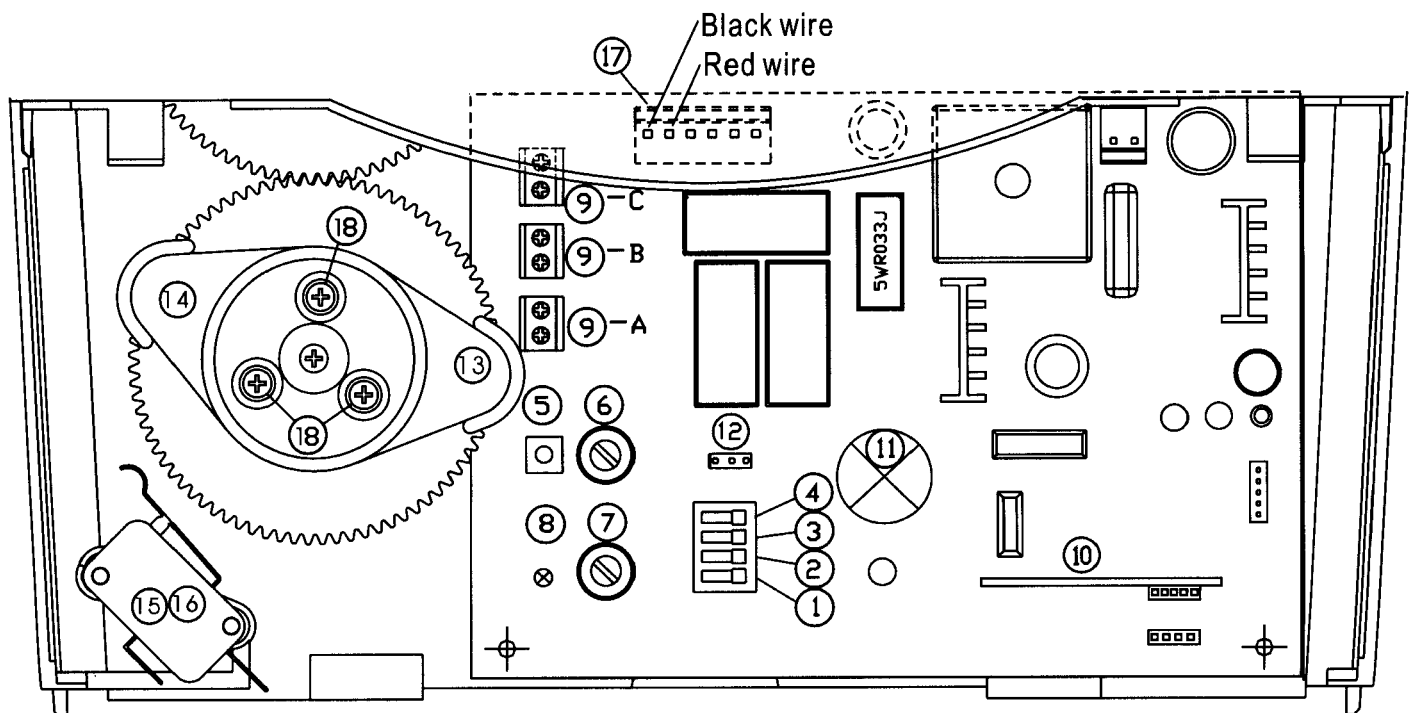
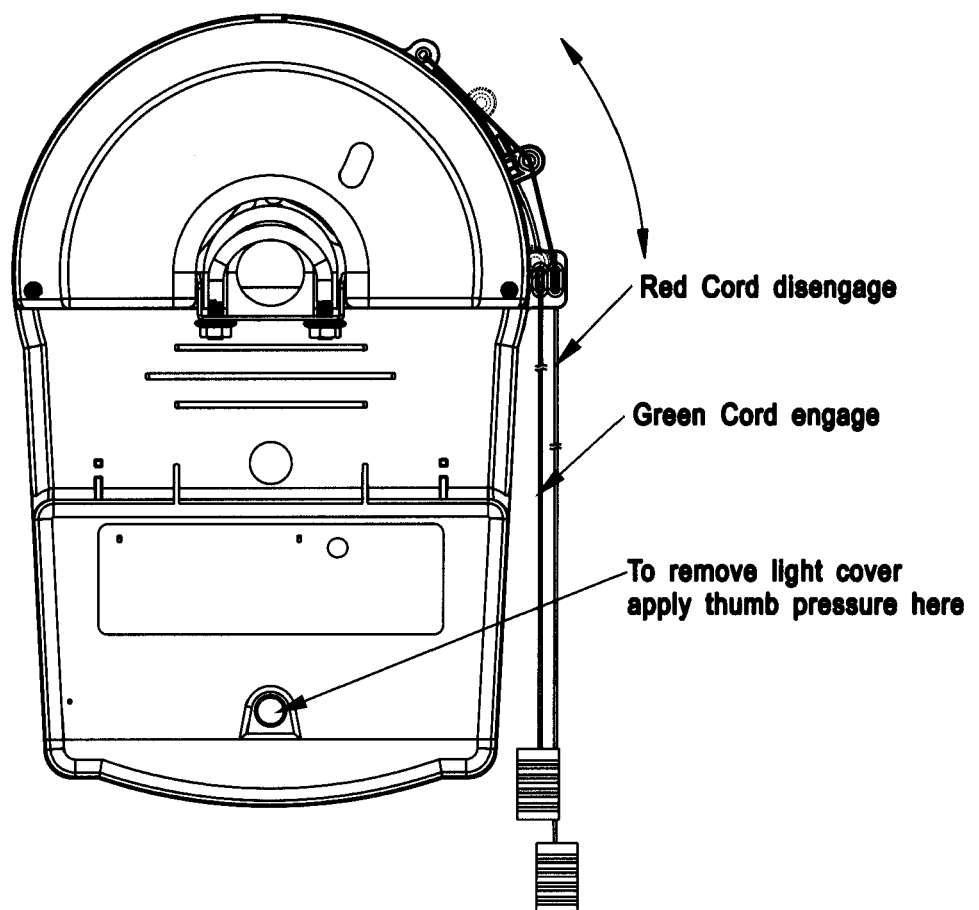

Fig 2
Fig 9
Locate the red and black motor wires. (Fig.2, Item 17, Polarity Terminals) Unplug the connector and reverse it so that the red and black wires are in opposite positions to that depicted in the diagram.
- 1.8 Disengage the AGDO drive by pulling down on the release lever or Red Disengage Cord (Fig.9) - the forked drive wheel should now rotate freely.
- 6.1 Apply light thumb pressure on the button and then pull downwards on the Light Cover (Fig.9)
- 7.2 Gently remove the Light Cover (Fig.9) to expose the Limit Adjust Cams. (Fig.2 Items 13 & 14)
- 7.3 Slightly loosen the 3 locking screws (Fig.2 Item 18) to the extent that the Limit Adjust Cams can be rotated by hand with a firm push.
- 7.4 Rotate the Open Limit Cam (Fig.2 Item 13 – Upper Cam) in the direction of the Open Limit Switch (Fig.2 Item 15 – Upper Switch) until the Open Limit Switch is heard to “click”. Once the Open Limit Switch “clicks” continue to rotate the cam a further 5 degrees or so **towards** the Open Limit Switch.
- 8.2 Gently remove the Light Cover (Fig.9) to expose the Limit Adjust Cams. (Fig.2 Items 13 & 14)
- 8.3 Slightly loosen the 3 locking screws (Fig.2 Item 18) to the extent that the Limit Adjust Cams can be rotated by hand with a firm push.
- 8.4 Rotate the Close Limit Cam (Fig.2 Item 14 – Lower Cam) by hand in the direction of the Close Limit Switch (Fig.2 Item 16 – Lower Switch) until the Close Limit Switch is heard to “click”. Once the Close Limit Switch “clicks” continue to rotate the Cam a further 5 degrees or so **towards** the Close Limit Switch.
- 10.2 Ensure that the AGDO is disengaged by pulling down on the Red Cord (Fig.9)
- 10.3 Gently remove the Light Cover. (Fig.9)
- 10.4 Locate the “Learn” button on the Control Board (Fig.2 Item 5)
- 10.5 Momentarily press the “Learn” button – “Learn” Indicator Lamp will glow solid (Fig.2 Item 8)
- 11.1 Locate the 2 Safety Obstruction Force (SOF) Adjustment Thumb Screws and turn them to the maximum setting in a clockwise direction (Fig.2 Items 6 & 7)
- 12.1 With the garage door in the fully **open** position and engaged to the garage door activate the AGDO. As the garage door commences to **close** slowly begin to turn the Close Direction “SOFA” screw (Fig.2 Item 6) in an anti clockwise direction until the garage door stops and reverses towards the **open** direction. (The garage door must stop and reverse before it reaches the ground) Now turn the “SOFA” screw 10 degrees in a **clockwise** direction.
- 22.1 Gently remove the Light Cover (Fig.9)